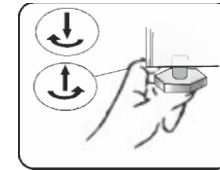

Fig. 1
Step 4: Rotate the two front levellers, provided below your refrigerator, clockwise to raise the front and anticlockwise to lower it (refer fig.1). The front should be slightly above the rear so that the door shuts gently when left open.